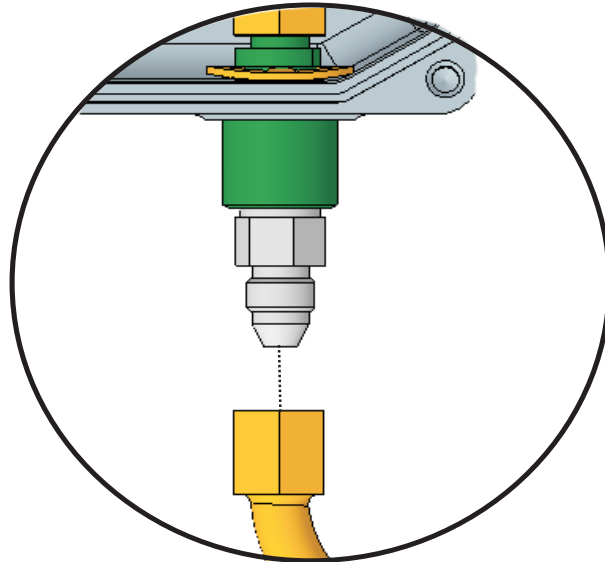

Figure 4-58. Fitting on Outside of XV Control System
8. After ensuring there is no leakage, loosen the swivel fitting located at the bottom right side of the XV Control System (see Figure 4-58). Allow the pressure to vent slowly. When the pressure is completely vented, disconnect the fitting and remove the cover.
20. Secure the High Pressure Nitrogen Tubing back onto the bottom of the XV Control System. Ensure that the fit is properly snug to prevent leakage. Refer to Figure 4-58.